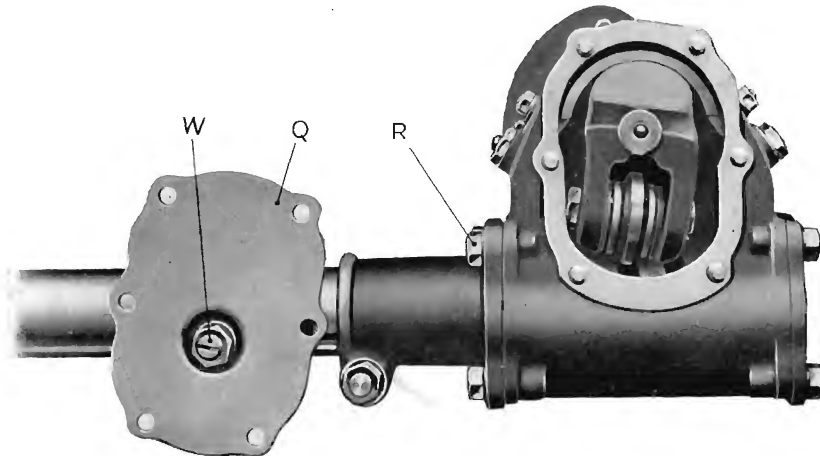
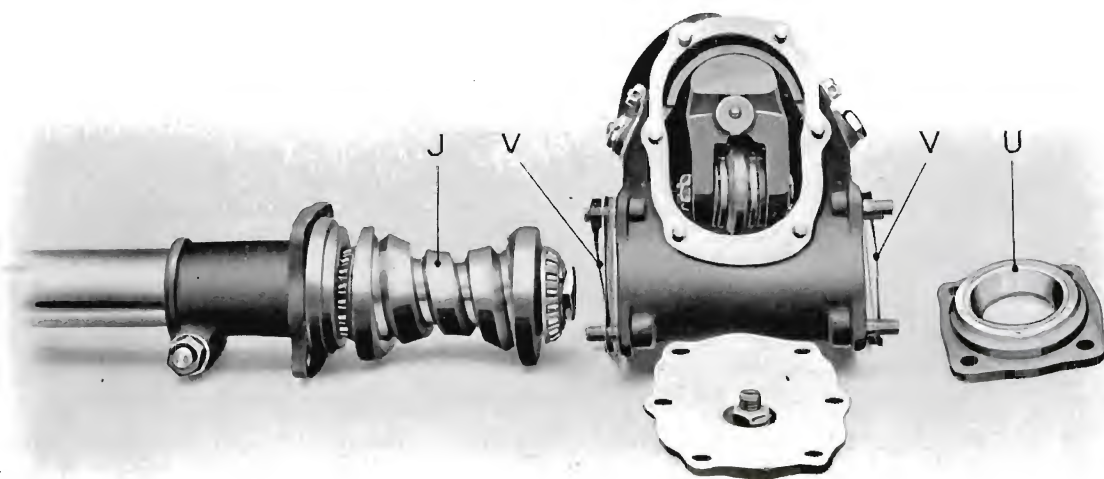

Fig. 4.
Fig. 5.
To remove the rocker-shaft, take off the cover (Q), Fig. 4, and the rocker-shaft can be withdrawn. Remove the nuts (R) and the steering-shaft and cam can be withdrawn as shown in Fig. 5.
Fit the bottom cap (U), Fig. 5, and the cam and steering-shaft; adjustment for end play is effected by means of shims (V) of varying thickness. End play is taken up by removing shims; adjust until there is no end play with all nuts tightened, but the shaft will rotate freely.
Replace the cover (Q), Fig. 4, and move the roller to the limit of travel in each direction, when the backlash should be equal at both ends, approximately .005 in. If this is not so the cam will bind at one extremity of its travel.